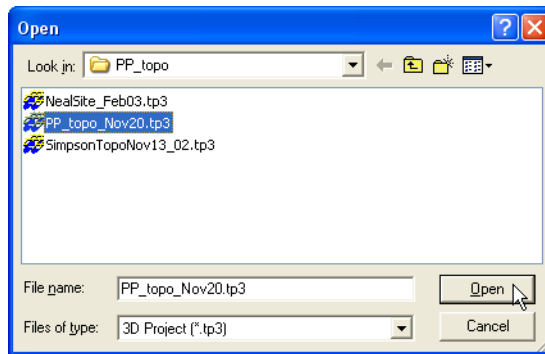

Figure 1-11. Select File to Open
2. On the *Open* dialog box, navigate to the location of the file, select the file type, select the desired file, and click **Open** (Figure 1-11).